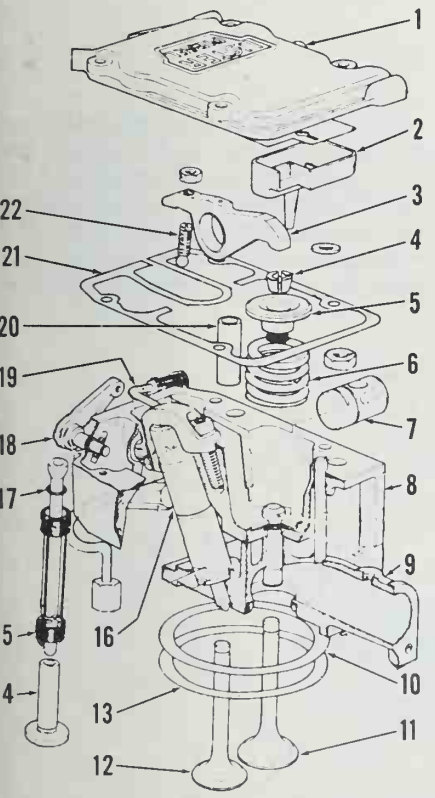

Fig. L9—Exploded view of cylinder head assembly.
To check cylinder head clearance, place two pieces of lead wire (1.2 mm) thick on cylinder head, as near as possible in line with piston pin. Tighten cylinder head to 40.6 N·m and turn piston past TDC twice. Remove head and measure lead wire. The lead wire should measure 0.71-0.79 mm. Clearance can be adjusted by (0.075 mm) shims (10—Fig. L9) placed between cylinder head (9) and head gasket (13).